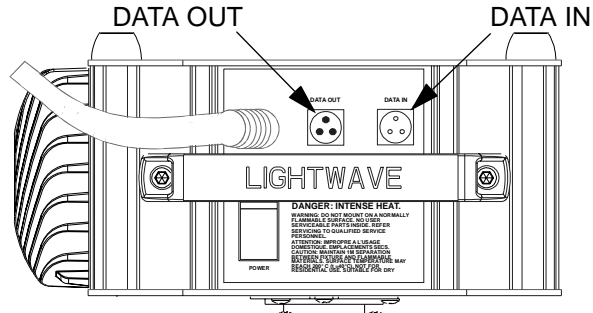

Figure 4.3. Data In and Data Out Connectors
1. Connect a data cable from the master fixture's DATA OUT connector to the first slave's DATA IN connector. Refer to Figure 4.3.